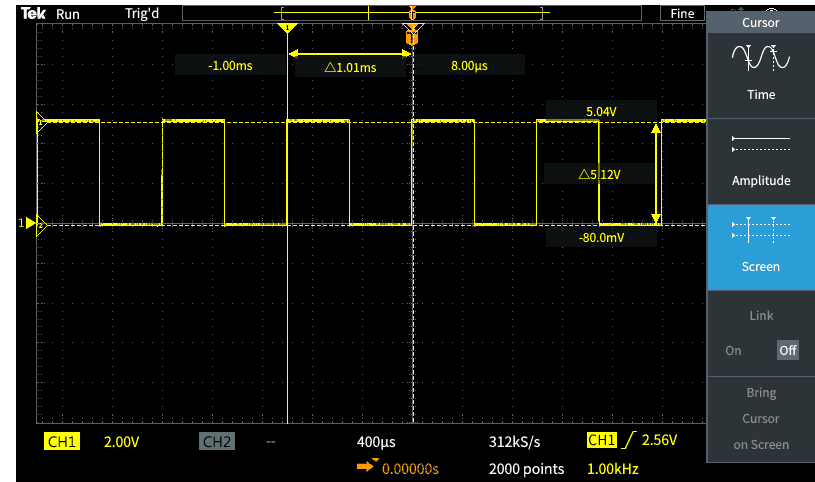

Figure 11. Using cursors to measure period and amplitude of the probe comp. signal
8. Press **MPK** again to change control to the upper cursor for amplitude measurements. Move the cursor to the top of the signal and note the delta readout (Figure 11).